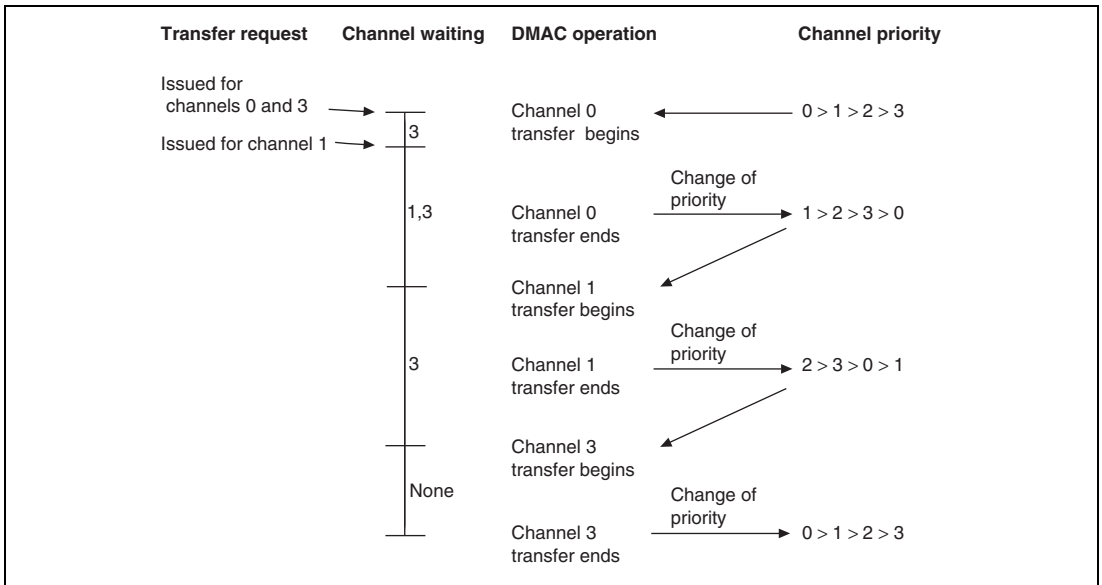

Figure 10.3 (2) Example of Changes in Priority in Round Robin Mode
Round Robin Mode: In round robin mode, each time the transfer of one transfer unit (byte, word or long word) ends on a given channel, that channel receives the lowest priority level (figure 10.3 (1)). The priority level in round robin mode immediately after a reset is CH0 > CH1 > CH2 > CH3.
Transfer on channel 0**Transfer on channel 1****Transfer on channel 2****Transfer on channel 3****Figure 10.3 (1) Round Robin Mode**
Figure 10.3 (2) shows the changes in priority levels when transfer requests are issued simultaneously for channels 0 and 3, and channel 1 receives a transfer request during a transfer on channel 0. The DMAC operates in the following manner under these circumstances: